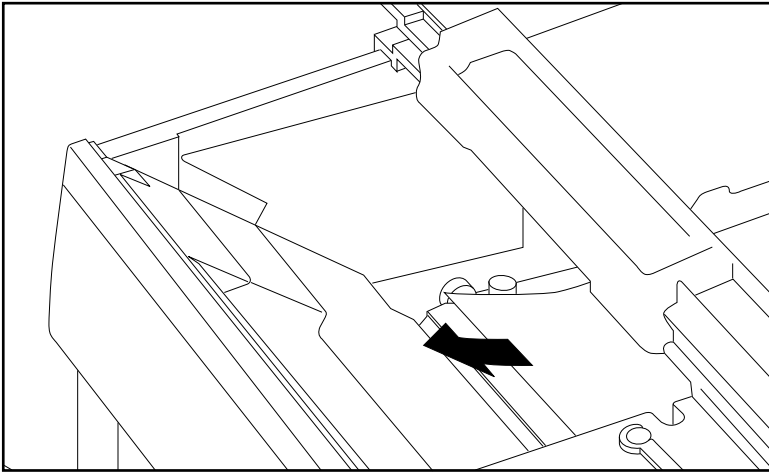

Fig. 10.9 Remove the Jam from the Fuser Assembly Area
1. Check the fuser area for a jam. If found, gently pull the media out in the direction of the arrow in figure 10.9.